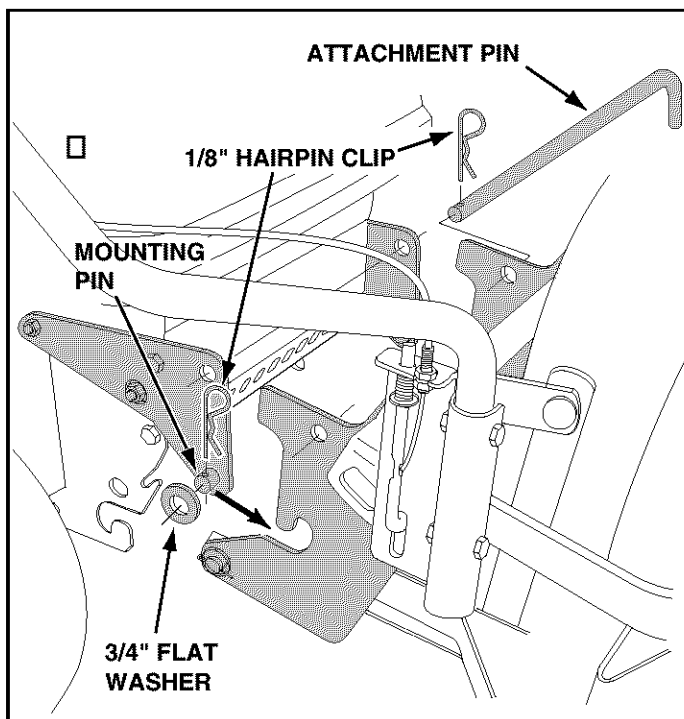

FIGURE 15 RIGHT SIDE VIEW
- Secure the snow thrower to the tractor using the attachment pin and 1/8" hairpin clip. Insert the attachment pin from the left side. See figure 15.